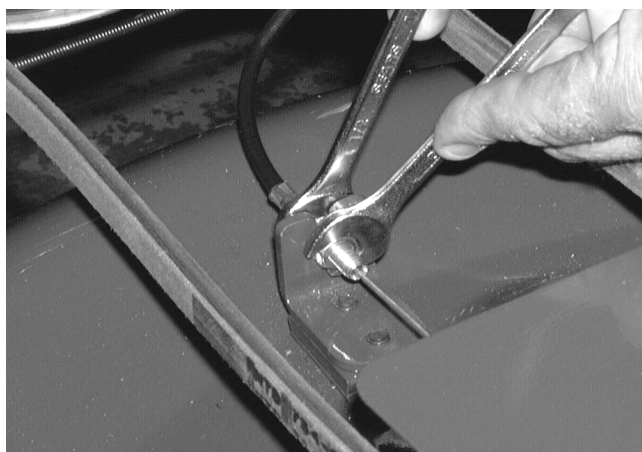

FIGURE 1.
- 1). Locate and loosen the hex jam nuts that secure the threaded end of the deck cable to the deck cable bracket using two 1/2" wrenches. See figure 1.